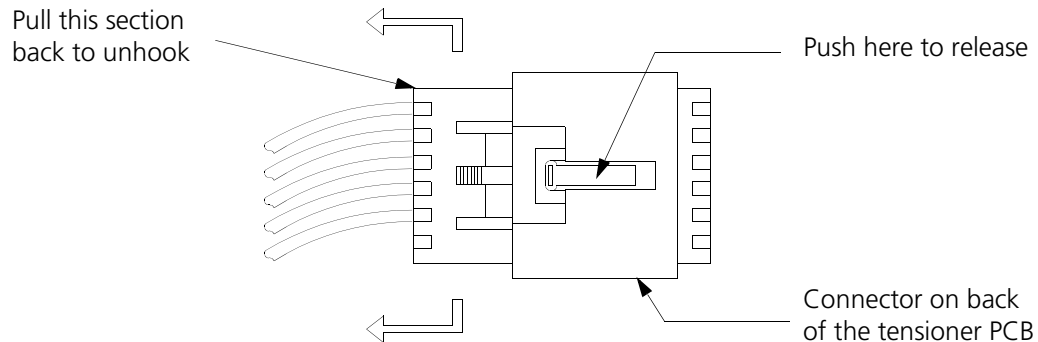

Figure 3-8
3. Disconnect the connector on the back of the tensioner PCB (refer to Figure 3-8).